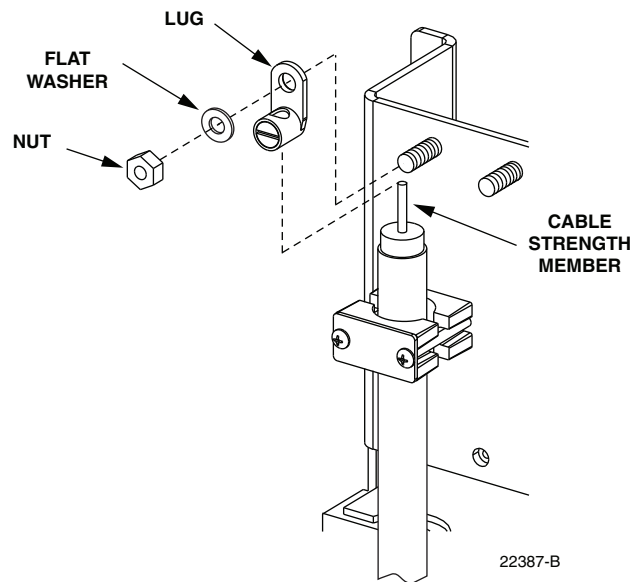

Figure 19. Strength Member Lug Installation
9. Insert the central strength member into the lug as shown in Figure 19 and then install the lug on the cable bracket.
7. Insert the central strength member into the lug as shown in Figure 19 and then install the lug on the cable bracket.